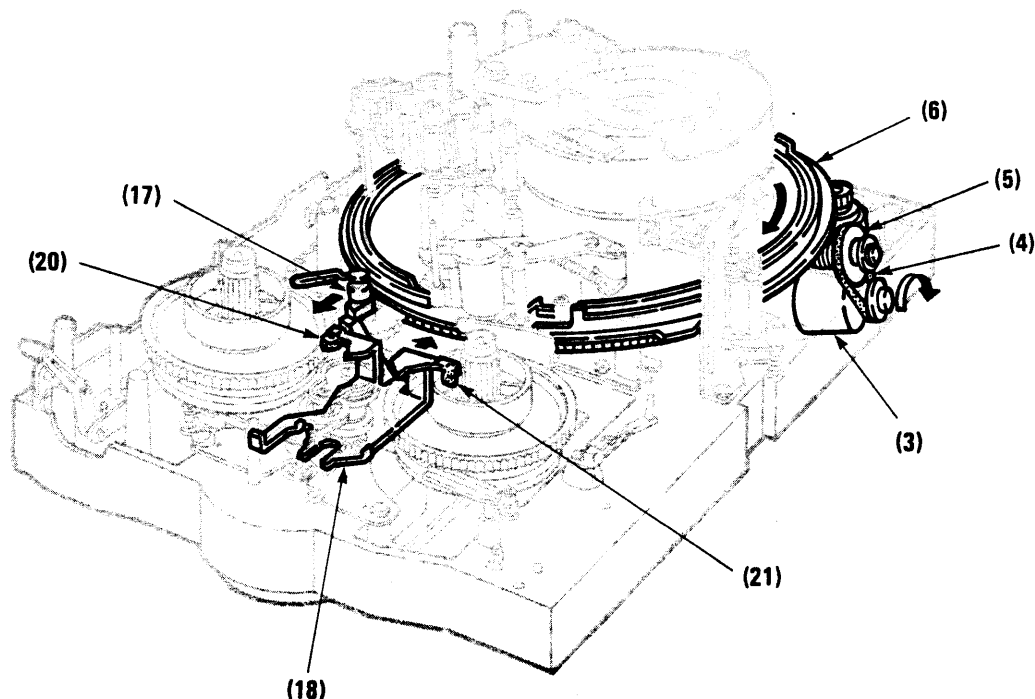

Fig. 3-3-14 LOADING mode
3. PLAY MODE (See Figs. 3-3-14 ~ 3-3-16.)